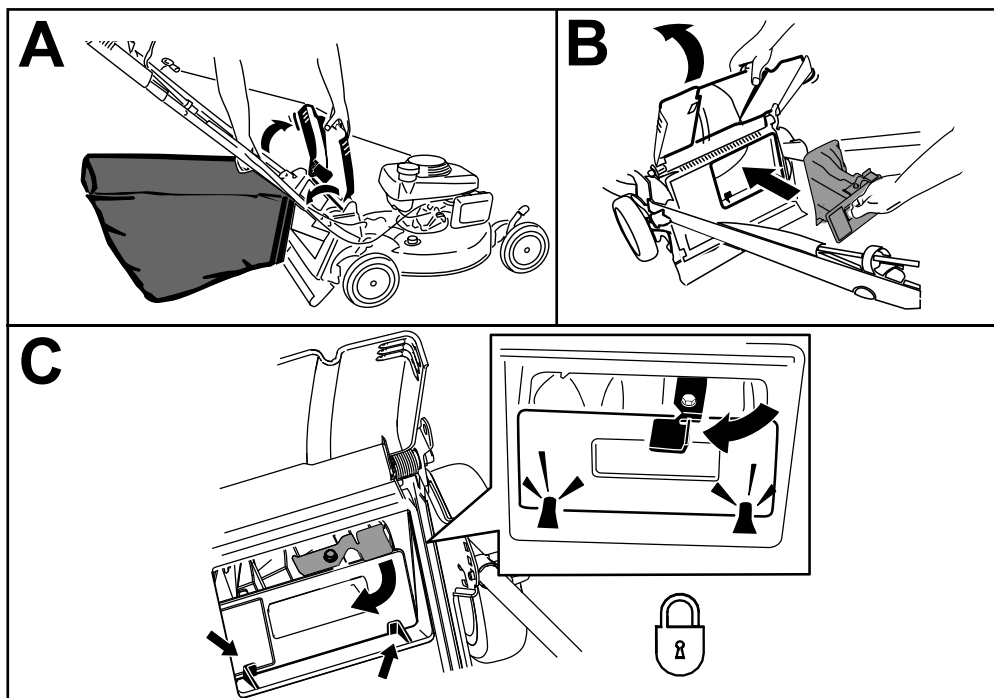

Figure 23
1. Raise and hold up the rear deflector and lift the grass bag up by the handle off the notches of the handle brackets (A of Figure 23).
2. Install the rear plug (B of Figure 23).
Important: Ensure that the rear plug is locked in place. To lock the plug, firmly push the plug in until it snaps into place behind the tabs, and rotate the lever on the plug to the left (C of Figure 23).